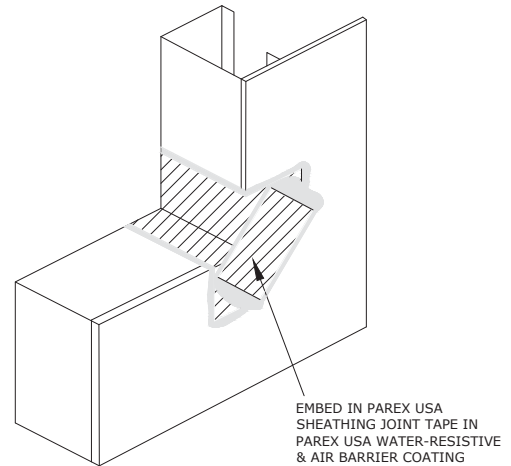

Fig. 10.2
- Cut "bandages" to 4 in. (102mm) x 6 in. (152mm). Embed ParexUSA 396 Sheathing Tape into ParexUSA WeatherSeal and install diagonally at sill corners as shown. Sheathing should not be visible at the corners of the rough opening (Fig 10.2)